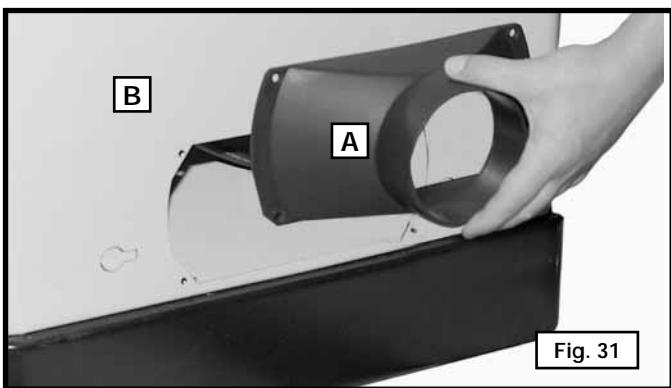

Fig. 31
The Unisaw is supplied with a dust chute connector to provide a means of connecting a 4" diameter dust collector hose to the machine. Align the four holes in the dust chute adapter (A) Fig. 31 with the four holes in the back of the saw cabinet (B). Attach the dust chute adapter with four #10 x 1/2" sheet metal screws.